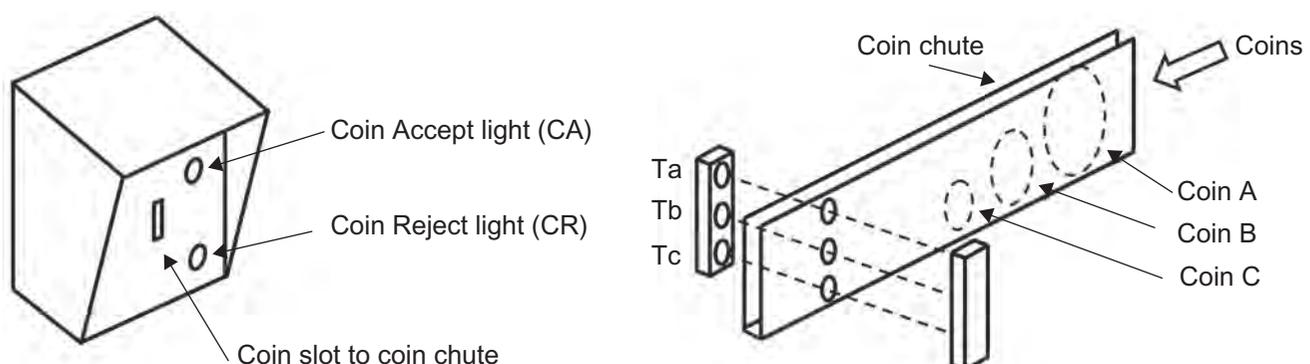

Fig. 2(b)
- (i) Draw a truth table to represent the logic combinations for the phototransistors Ta, Tb and Tc which result in the corresponding Coin Accept (CA) and Coin Reject (CR) lights illuminating in **Fig. 2(b)**. Assume that each phototransistor produces a logic 1 when a coin is detected. [3]